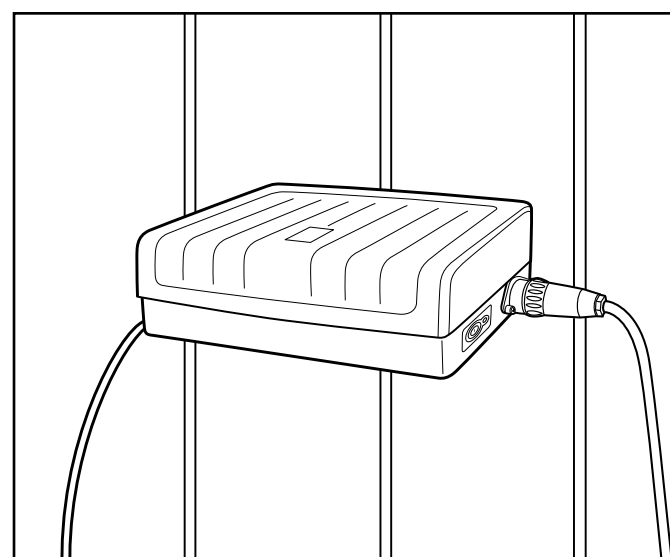

Figure 2. Position Control Unit on the Wall
2. Using the appropriate drill bit, drill three (3) holes. Screw the three (3) 1/4" (6mm) screws, provided with the unit, into the holes and place the control unit onto the screws. Refer to Figure 2.